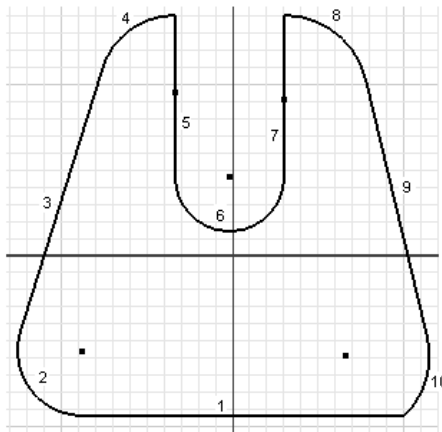

Figure 3-27 Profile with geometries numbered
1. Invoke the **Line** tool from the **Create** panel in the **Sketch** tab, refer to Figure 3-27.
The outer loop that you created in the previous step might be different from the one shown in Figure 3-27. You can find the missing constraints by following the next step and applying constraints accordingly.
As evident from Figure 3-27, some of the constraints such as tangent and equal are missing in the sketch. The sketch shown in Figure 3-27 may not be symmetrical and all the lines in the sketch may not be tangent to the arcs. Therefore, you need to add these missing constraints manually to the sketch to complete it. You can choose the **Show Constraint** option from the Marking menu that is displayed when you right-click on an entity.
1. In Figure 3-27, the **Tangent** constraint is missing between line 1 and arc 10. To add this constraint between the line and the arc, choose the **Tangent** tool from the **Constrain** panel of the **Sketch** tab; you are prompted to select the first curve. Select arc 10 as the first curve; you are prompted to select the second curve. Select line 1 as the second curve. Similarly, add this constraint to all the places in the sketch wherever it is missing.